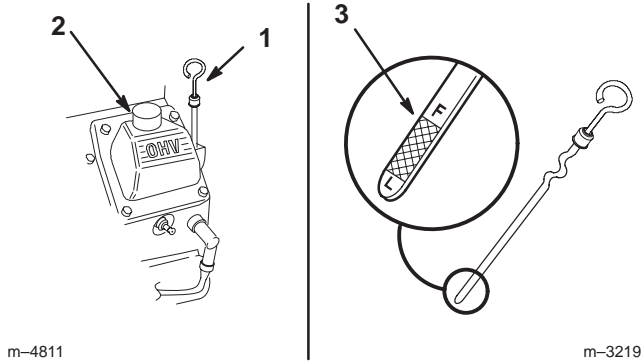

Figure 36
2. Clean around the oil dipstick (Fig. 36) so dirt cannot fall into the filler hole and damage the engine.
3. Pull the oil dipstick and wipe the metal end clean (Fig. 36).
4. Slide the oil dipstick fully into the filler tube. Pull the dipstick out and look at the metal end (Fig. 36). If oil level is low, slowly pour only enough oil into the filler tube to raise the level to the the full mark.
5. Slowly pour approximately 80% of the specified oil into the filler cap (Fig. 36). Refer to Servicing the Engine Oil, page 30.